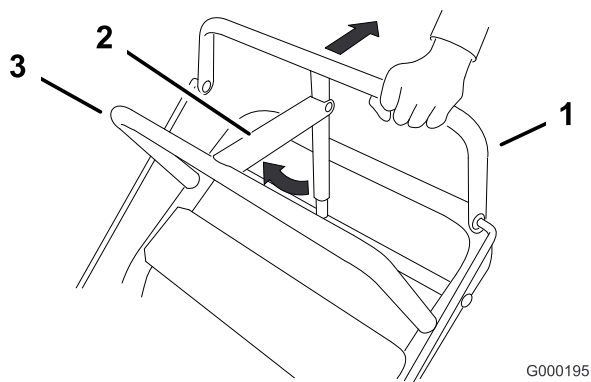

Figure 14
1. Pull the upper control bar (Figure 14) rearward and hold it in this position.
2. Lift the parking brake lock (Figure 14) up and gradually release the upper control bar. The brake lock should stay in the set (locked) position.
2. Gradually release the upper control bar (Figure 14).